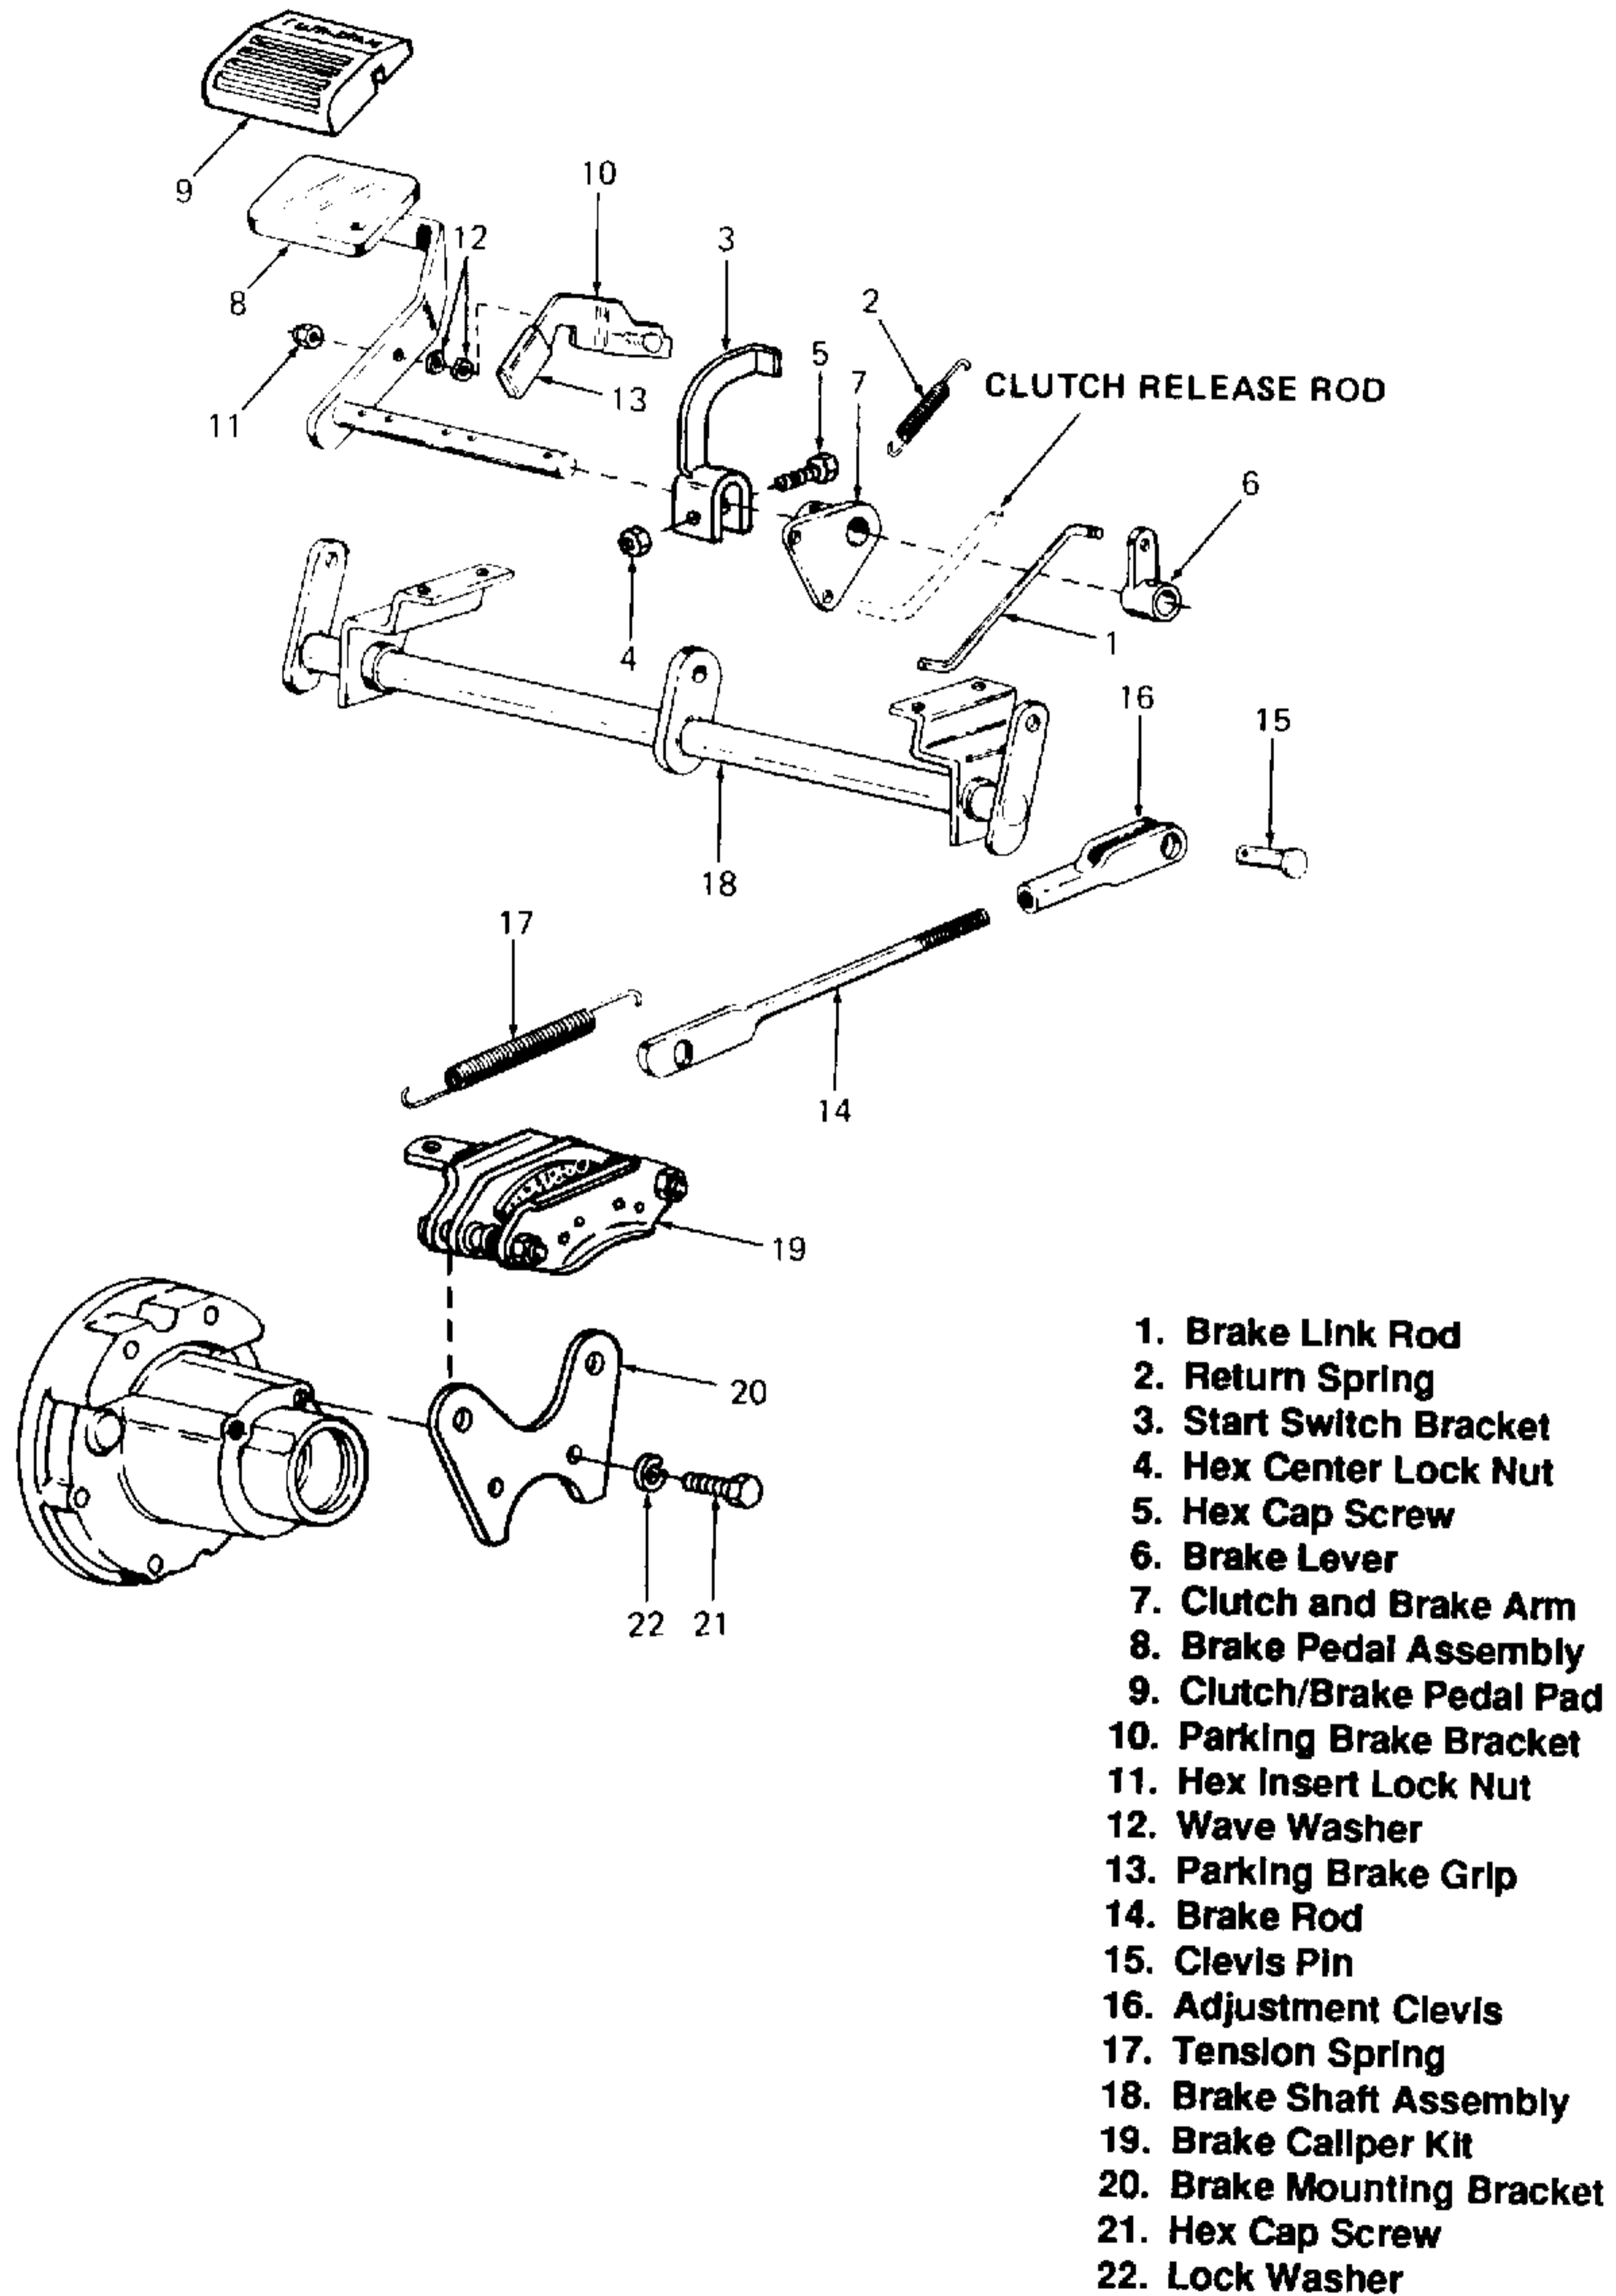

Figure 5-63. Brakes and Connections (Model 1535).
2. Remove brake link rod (1, Figure 5-63) and return spring (2).
3. Remove start switch bracket (3) by removing hex center lock nut (4) and hex cap screw (5).
4. Remove brake lever (6) and clutch and brake arm (7) by removing spiral spring pins and pulling brake pedal assembly (8) from the tractor. Discard spiral spring pins.
5. Remove brake rod (14) by removing clevis pin (15), adjustment clevis (16) and tension spring (17).
6. Remove brake shaft assembly (18).
7. Remove brake caliper kit (19).
8. Remove brake mounting bracket (20) by removing hex cap screw (21) and lock washer (22), which can be removed through access hole in the axle hub.